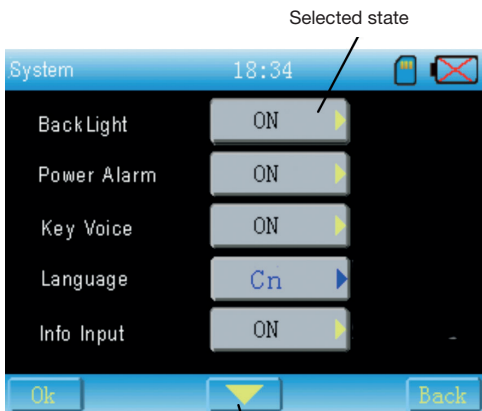

Fig. 13-3-2
The interface is showed as Fig.13-3-1, Fig.13-3-2
- 1) This item is disabled when USB is not connected as Fig.13-3-2.